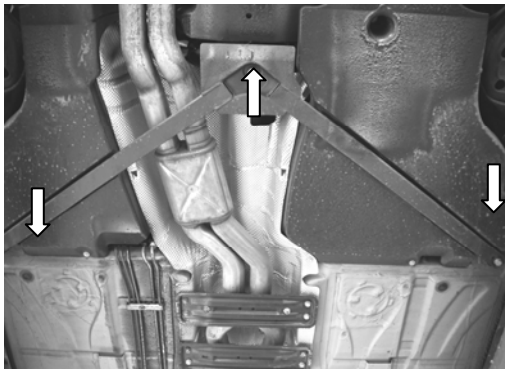
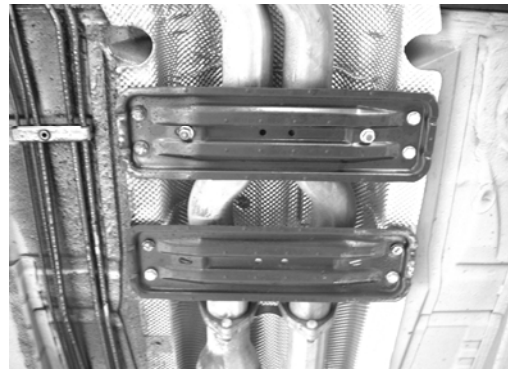

Figure 1
Figure 2
2. Unbolt the two support brackets shown in figure 2 leaving the rear most bracket attached to the exhaust.
5. Install the center support shown in figure 1 and also the two support brackets shown in figure 2.